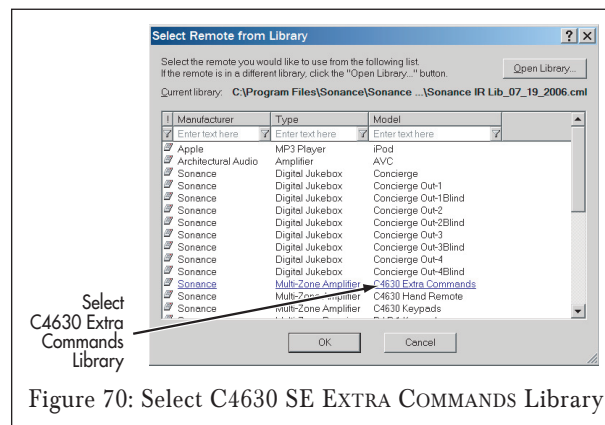

Figure 70: Select C4630 SE EXTRA COMMANDS Library
1. After opening the Navigator Program Manager and choosing a keypad, left-click the SELECT NEW REMOTE button on the Library Manager. Select the C4630 SE EXTRA COMMANDS library (Figure 70).